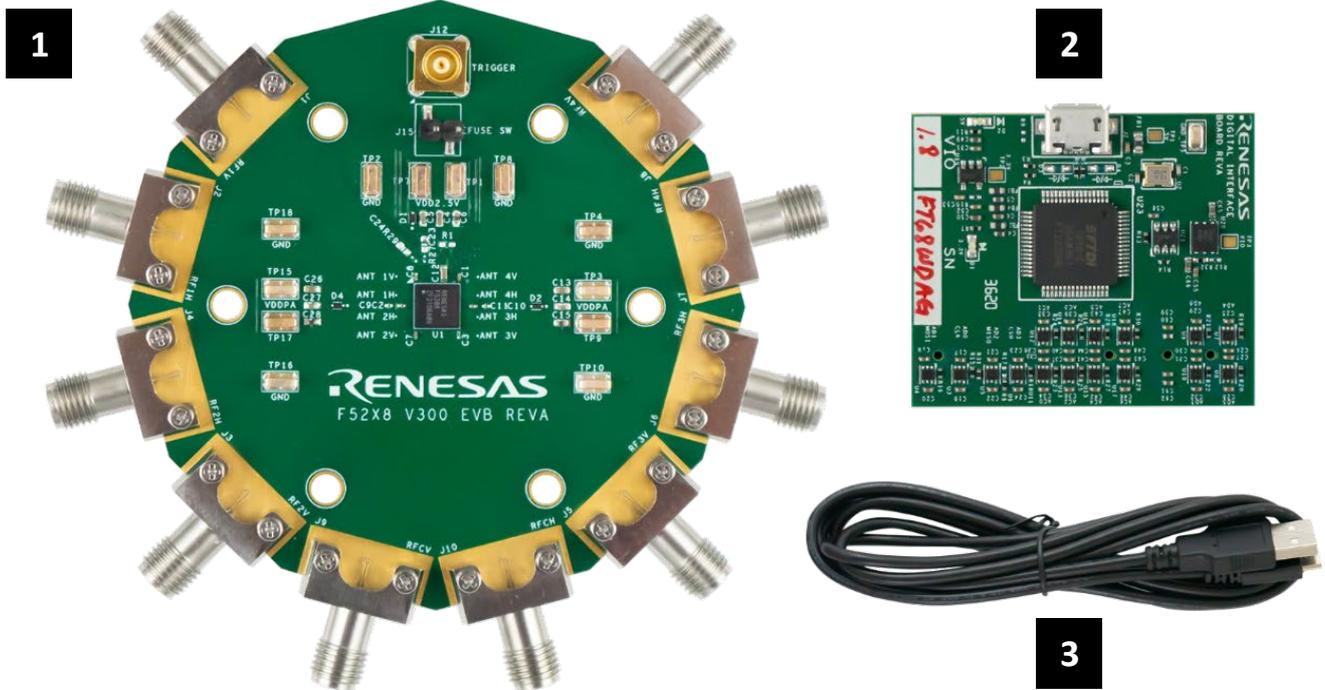

Figure 1. Kit Contents
- F5268/F5288 Evaluation Board (EVB, see item 1 in Figure 1)
- FT2232HL Digital Interface Board (see item 2 in Figure 1)
- USB-to-Micro USB cable (see item 3 in Figure 1)